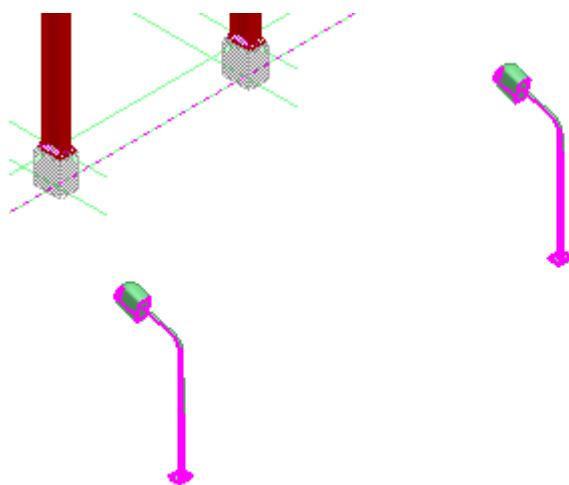

Figure 6: Selected Street Lighting Fixtures
28. Select the two street lighting fixtures from the graphic view that you need to copy, as shown in Figure 6.